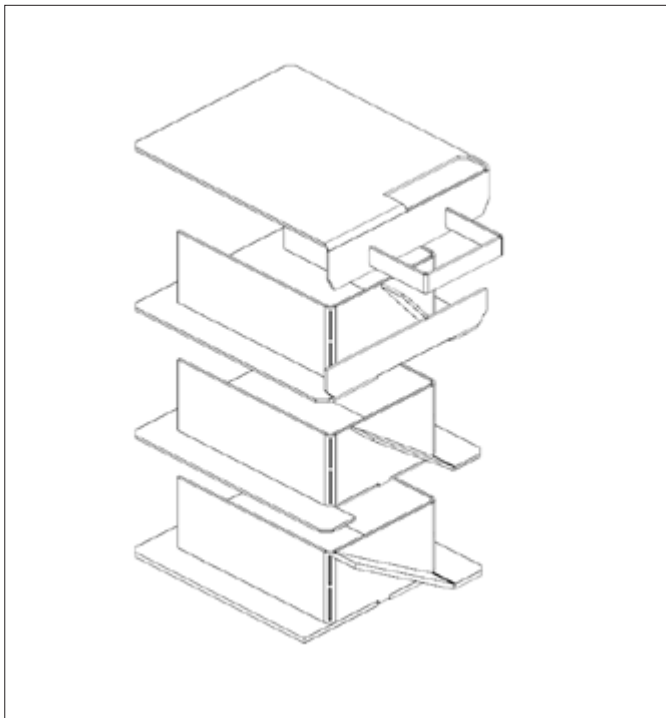
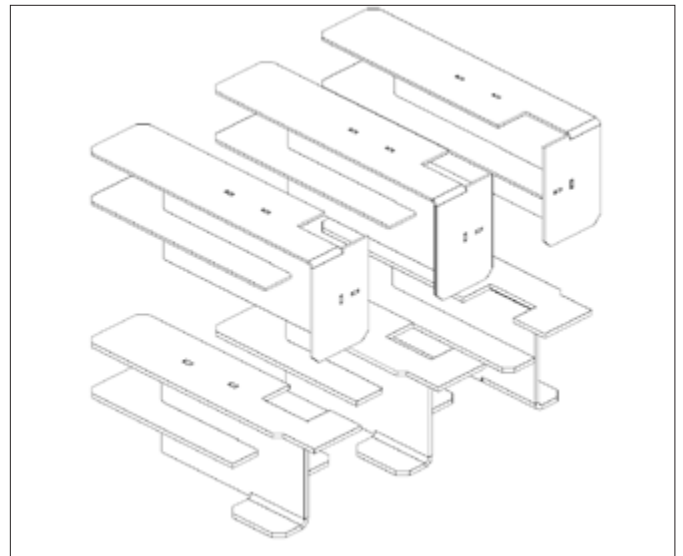
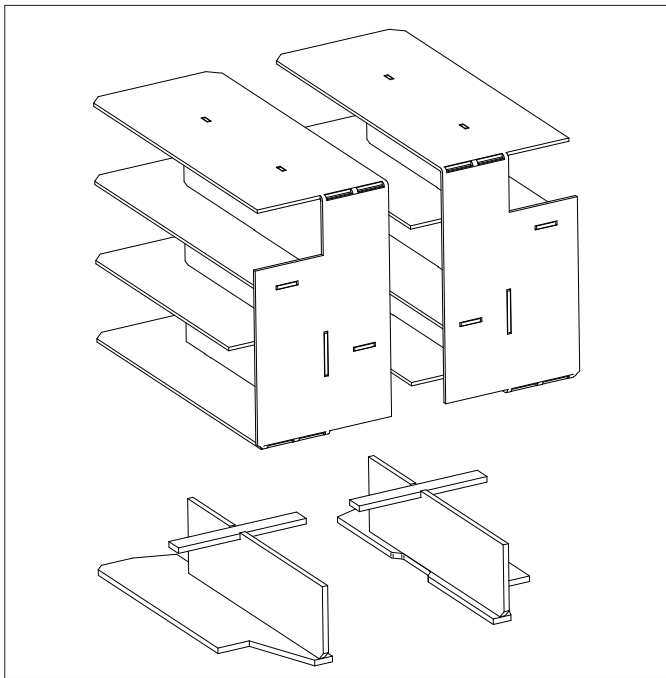
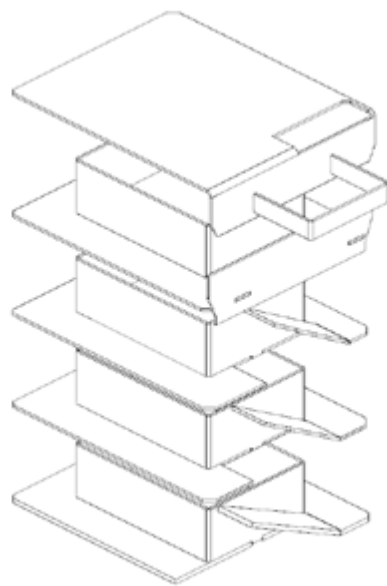

Figure 11-1: Baffles in Vortex Pro Combi 21
Figure 11-3: Baffles in Vortex Pro Combi 36
Figure 11-2: Baffles in Vortex Pro Combi 26
Figure 11-4: Baffles in Vortex Pro Combi XS 26
2. Remove the baffles as shown in Figure 11-1, Figure 11-2, Figure 11-3 and Figure 11-4.
6. Replace the baffles, ensuring they are correctly fitted. Refer to Figures 11-1 to 11-4, as appropriate.